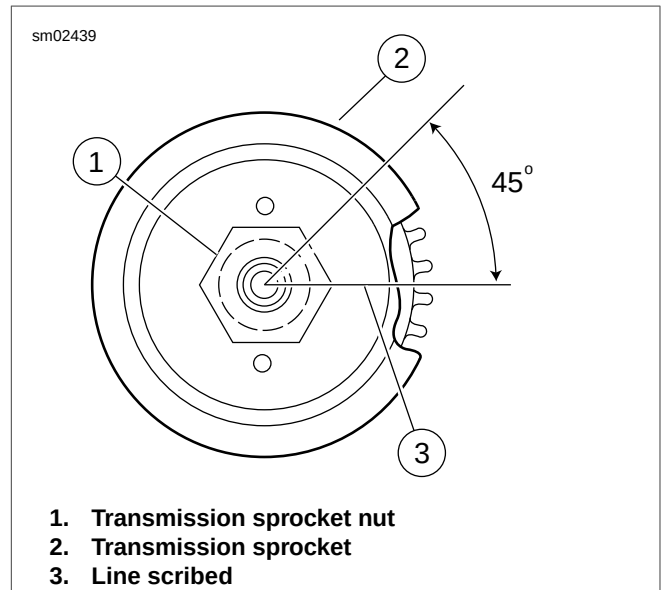

Figure 5-42. Transmission Sprocket Nut Final Tightening
8. See Figure 5-42. Scribe a line (3) on the transmission sprocket nut (1). Continue the line on the transmission sprocket (2) as shown.